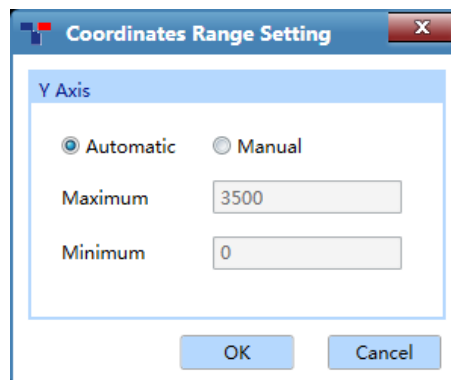

Figure D-7.1a Run Monitoring interface - Coordinate Range Setting
- ▶ <  **Y-axis Coordinate Adjustment** >: user can adjust the Y-axis coordinate of the real-time fluorescence monitoring diagram. Please click <  **Y-axis Coordinate Adjustment** > icon and the coordinate range setting box will pop up automatically, as shown in figure D-7.1a. User can select **Automatic** or **Manual** option in the coordinate range setting box to set the Y-axis coordinate. If the **Automatic** option is selected, the application software will automatically adjust the Y-axis coordinate according to the detected fluorescence value; if the **Manual** option is selected, user can manually enter or use  and  keys to set the maximum and minimum value of Y-axis coordinate range in the **Maximum** and **Minimum** input box and click < **OK** > to confirm.